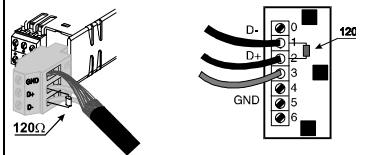

Figure 6: End-line resistor positions
5. **insert the 120Ω ¼ W resistor (supplied by CAREL) between the D+ and D- contacts by the most distant terminal from the serial converter RS232 / RS485; refer to Fig. 6;**